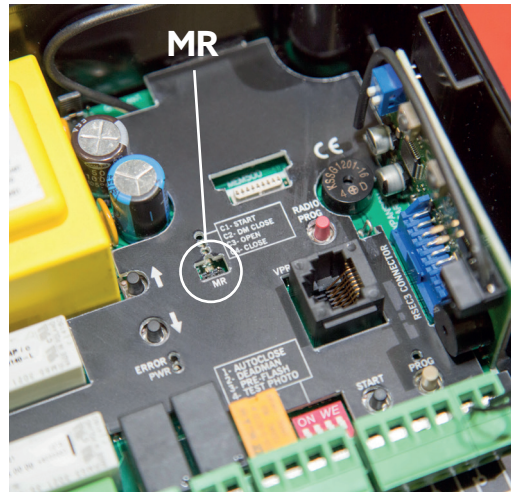

fig.10.1
- 1 Press and hold the "RADIO PROG" button (**fig.10.1**). You will hear a beep and the red LED alongside "C1" will illuminate.
- 2 Insert screwdriver between the 2 pin terminals on the board (MR) to bridge between them (**fig.10.1**).
- 3 Press and hold the "RADIO PROG" button (**fig.10.1**). The panel will beep 10 times and then go into 1 continuous beep. As soon as you hear this, release "RADIO PROG" button and then remove screwdriver from terminals and board will stop beeping.